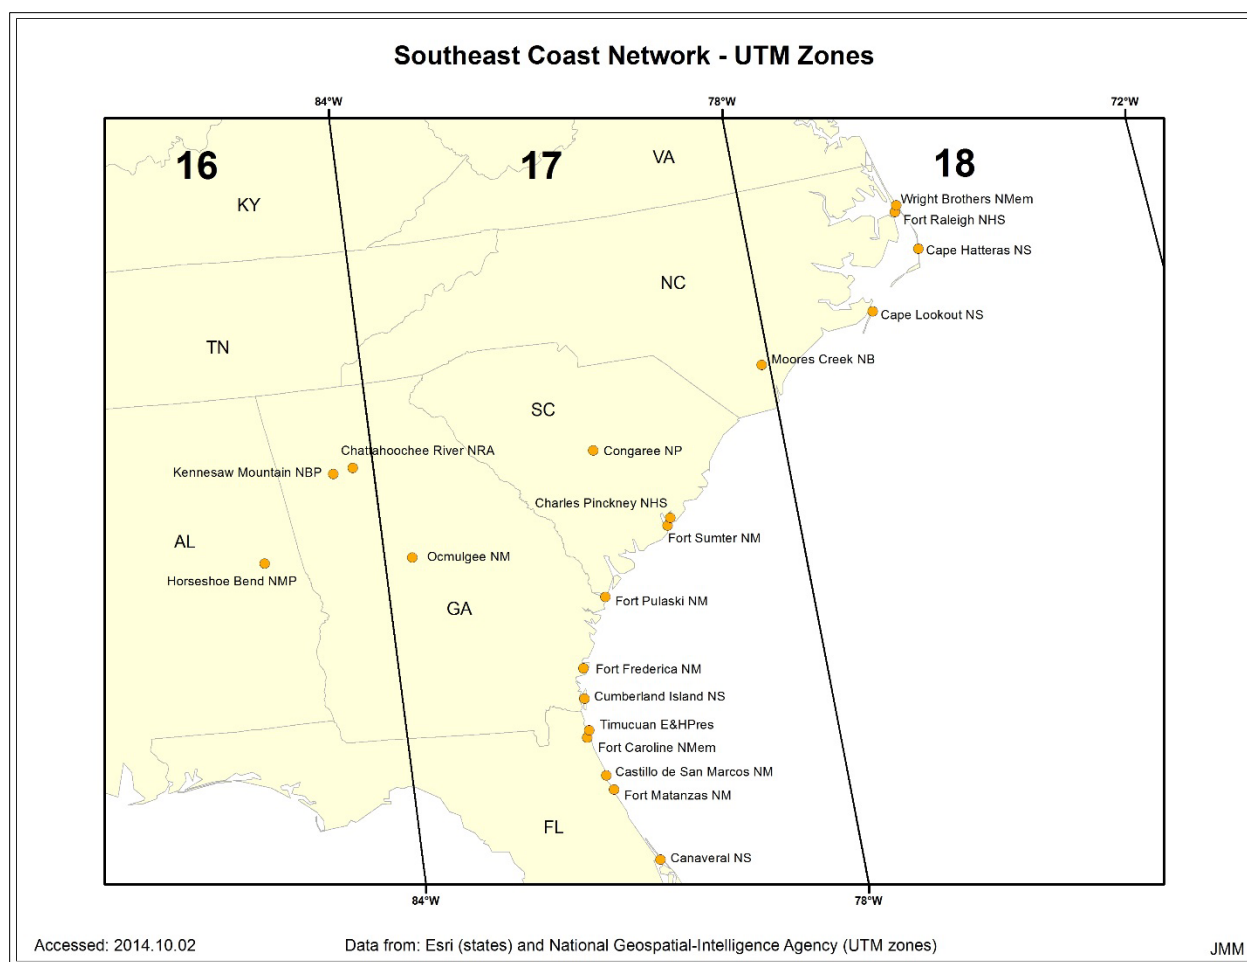

Figure 5. UTM zones for the SECN management units.
- iii. Set coordinate system to UTM Zone xx (see Figure 5).